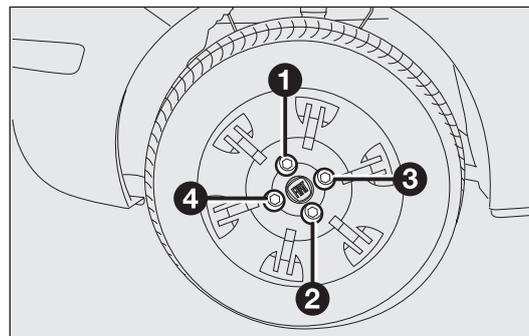

fig. 130
- fully tighten the bolts, passing alternatively from a bolt to the opposite one, following the order shown in fig. 130.